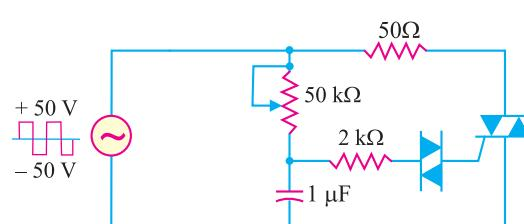

Fig. 21.35
7. If the triac of Fig. 21.35 has 1V across it when it is conducting, what is the maximum current through the 50Ω ?